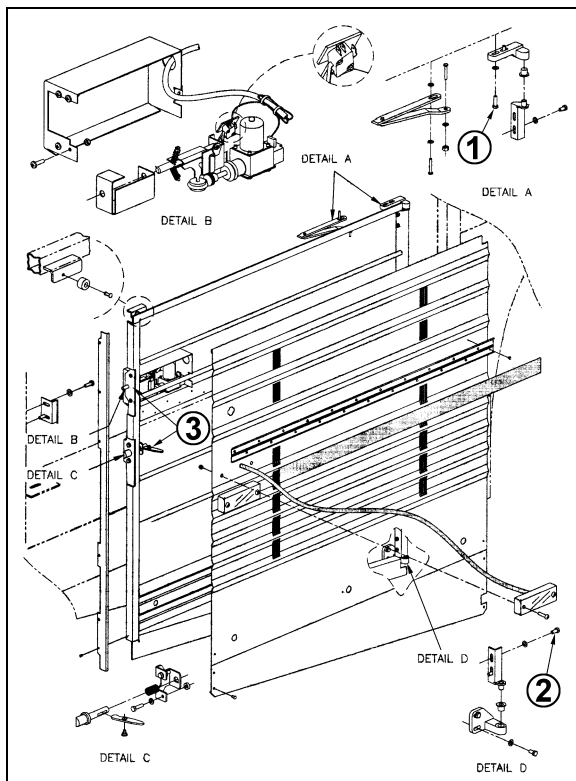

FIGURE 35: ENGINE COMPARTMENT R.H. SIDE DOOR 18635
1. Loosen the bolts, (1, Fig. 35) holding the hinge to the vehicle structure to shift the door "IN or OUT" and "UP or DOWN".
2. Loosening the bolts (2, Fig. 35) allows the door to be shifted "LEFT or RIGHT" and "UP or DOWN".
To adjust the latch mechanism (3, Fig. 35) and the striker pin: